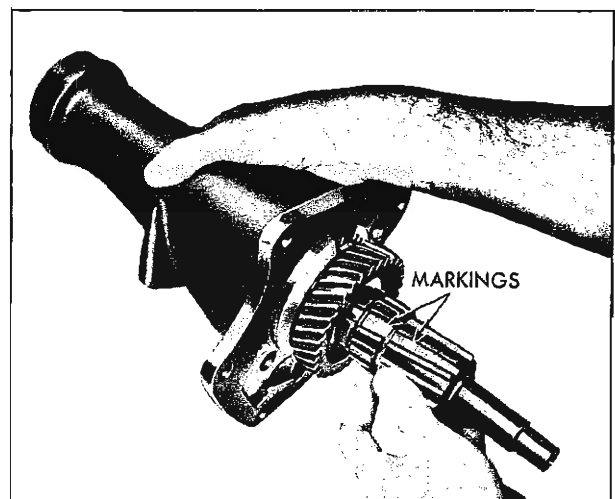

Fig. 7-35 Alignment of Synchronizer Clutch Splines on Mainshaft in Transmission Case
3. Align clutch splines on mainshaft with clutch splines on second speed gear so as to receive the two inner lugs of synchronizing ring of second and third speed clutch. Mark for identification (Fig. 7-35).